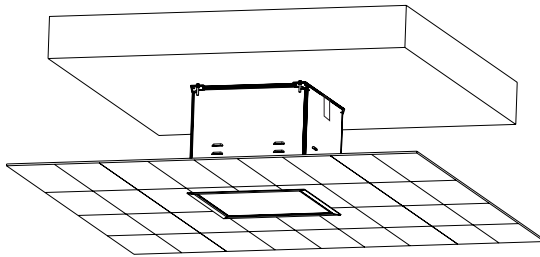

figure 9
6. Figure 9 - cut the ceiling board (Step 1) to a suitable size which will maintain the gap after retraction of the projector lift